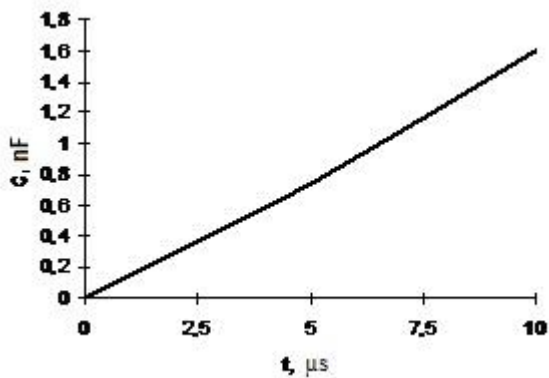

Figure 9 – “Dead time” duration dependence versus nominal capacity  $Cdt$
**CDT H1, CDT H2, CDT H3, CDT L1, CDT L2, CDT L3** – adjustment capacitors of relevant controlled transistor turn-on duration delay (“dead time” duration for switching). Delay for switching in a missing capacitor will be 0  $\mu$ s and “dead time” for switching will absent. Initially installed capacitors are relevant to “dead time” of 2.5  $\mu$ s (tuning presets at supply). Duration dependence of “dead time” from present capacitors nominal is shown on Fig. 9.